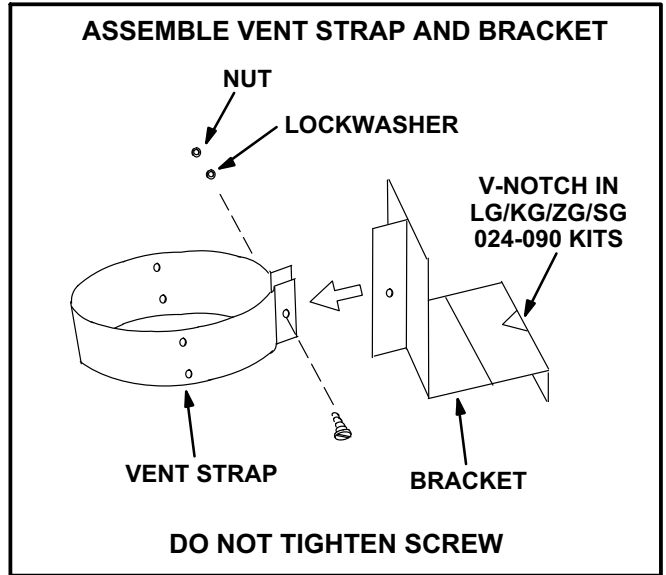
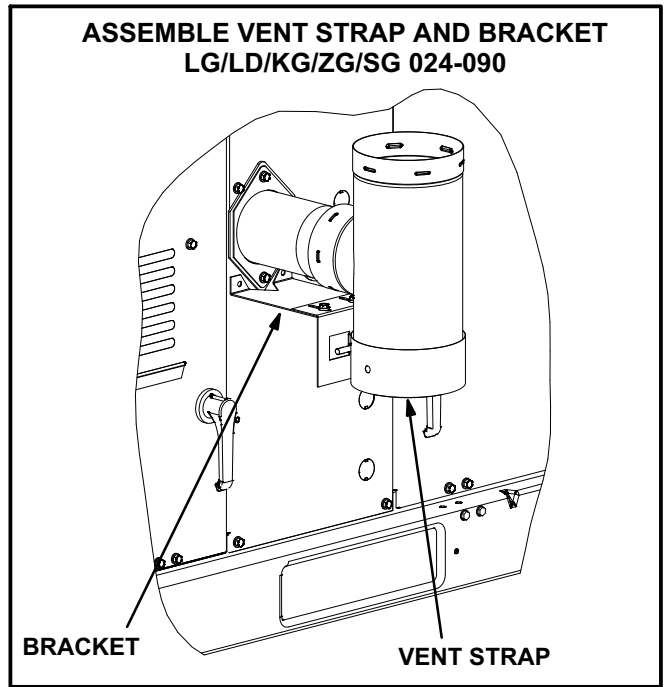

FIGURE 3
FIGURE 4
- 4- Assemble the vent strap and bracket as shown in figure 3. Do not tighten screw. On LG/LD/KG/ZG/SG 024-090 units, turn the bracket 180 degrees to allow clearance for the door handle. See figure 4.
- 9- Assemble vent strap and bracket as shown in figure 3 without tightening screw.